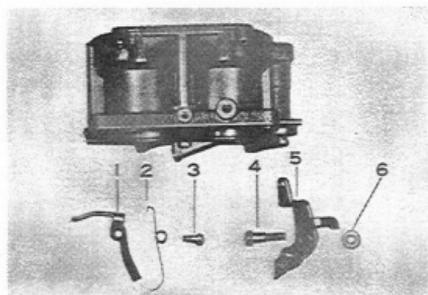

Fig. 5-72 Removing Levers 01911
i. Loosen and remove the screw (4), remove the lever (5) and washer (6). (Fig. 5.72).
j. Loosen and remove the stop lever securing screw (3), remove